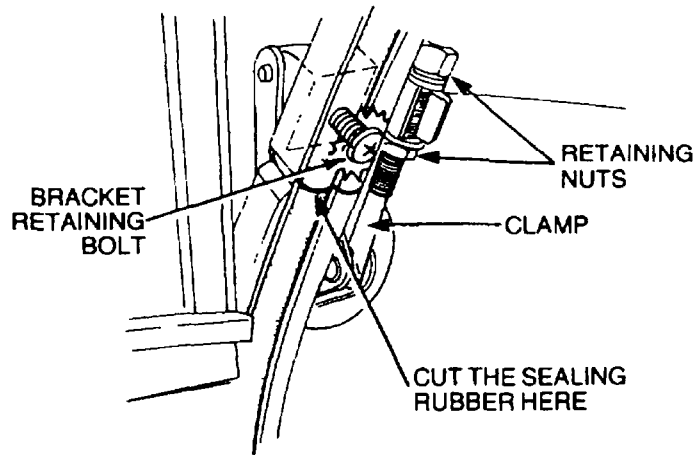

Figure 179 Windscreen Assembly Removal
- i. Remove the locknuts and washers securing the door frame to the windscreen frame and cut the sealing rubber adjacent to the firewall (Figure 179). Discard the locknuts.